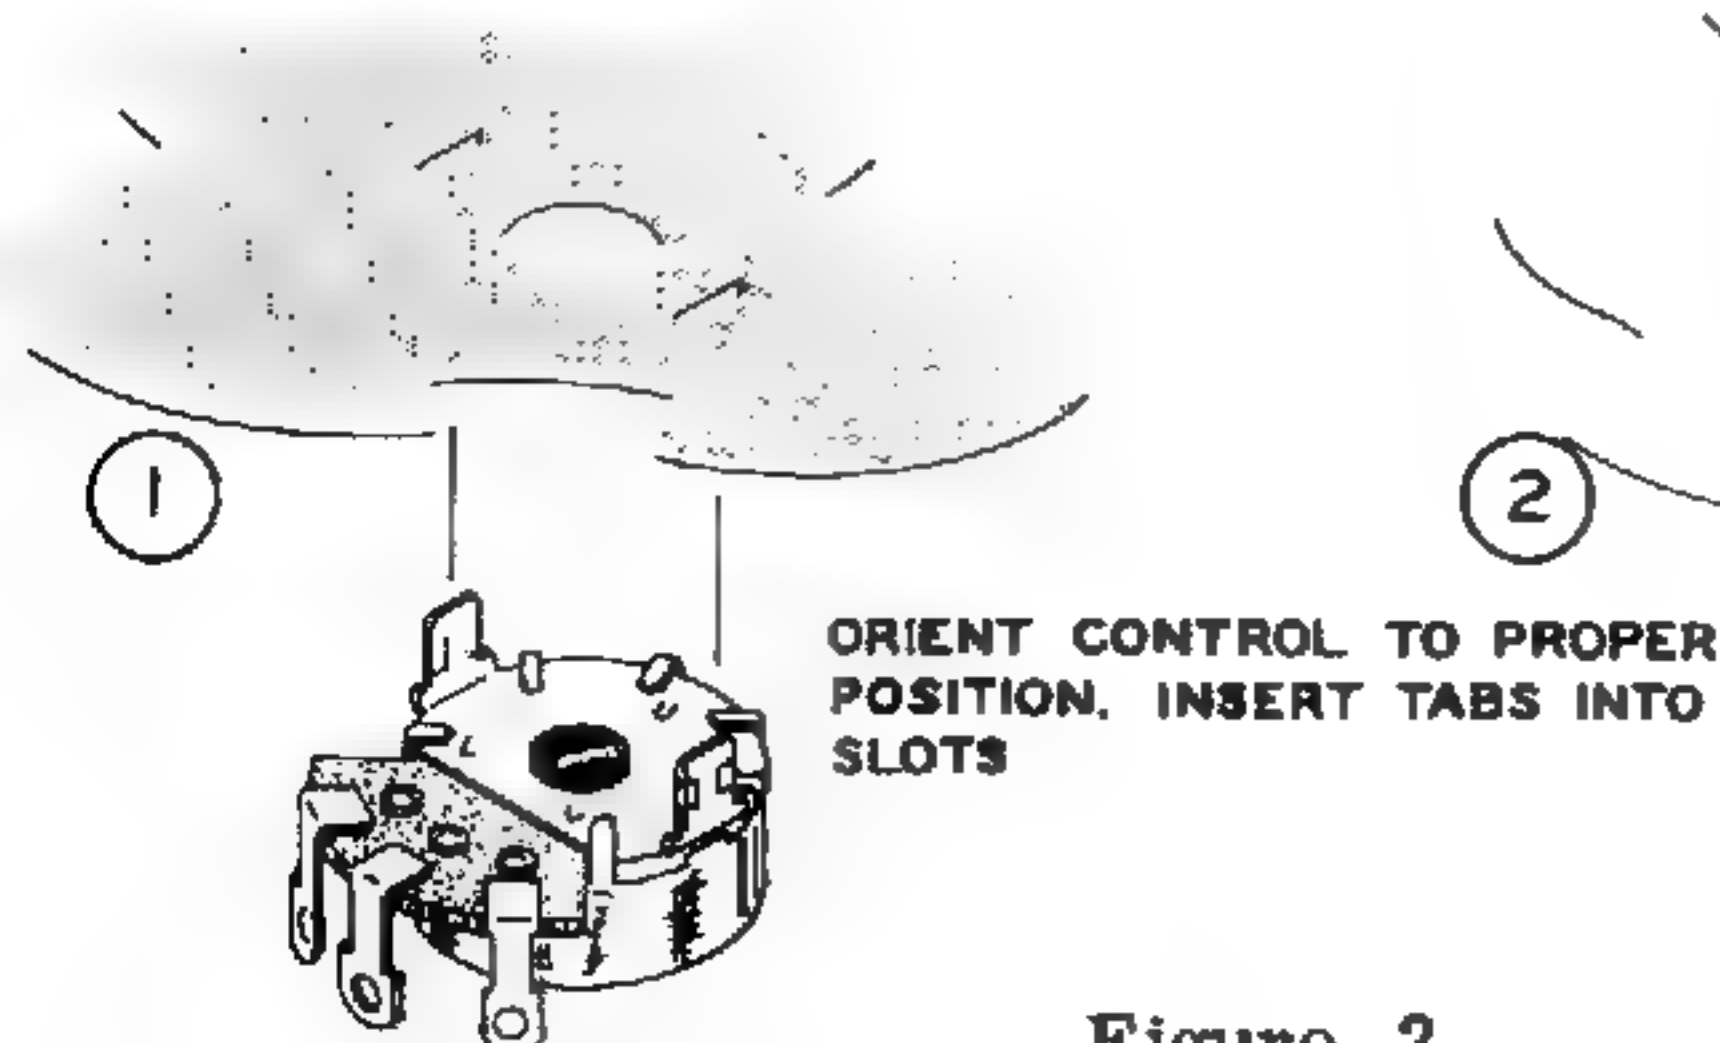

Figure 2
- (✓) R13. Install the tab mounting control (#10-75) at Q as shown in Figure 2.